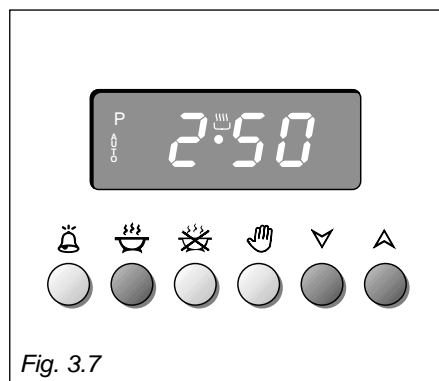

Fig. 3.7
1. Set the length of the cooking time by pushing the ☺ button and the ▲ button to advance, or ▼ to go backwards if you have passed the desired time (Fig. 3.7).